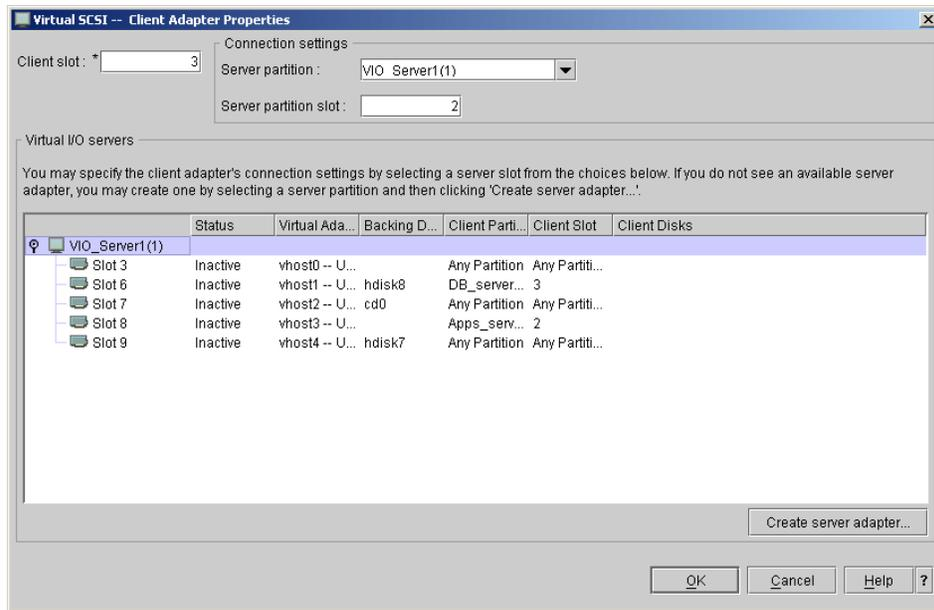

Figure 3-32 Client adapter properties
2. Click **Create client adapter**. The window in Figure 3-32 appears.